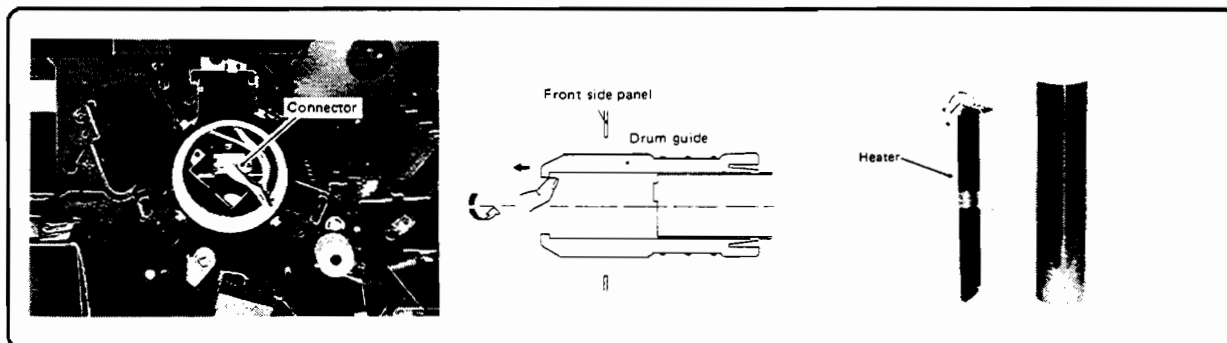

Figure 6-52. Drum Assembly Components
9. Unplug the front connector of the drum temperature control PCA (Figure 6-52).
10. Pull the drum guide to the front as far as it will go, and turn it slightly counter-clockwise until it locks (Figure 6-52).
13. Remove the drum heater from the drum (Figure 6-52).
1. Pull the drum guide to the front as far as it will go, and turn it slightly counter-clockwise until it locks (Figure 6-52).